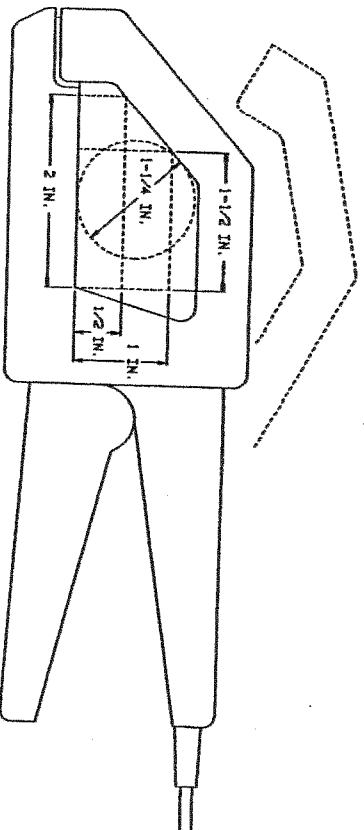

Figure 3: Clamp-On Current Sensor
■ Current sensor: clamp-on CT with 2-in. opening. See Figure 3.